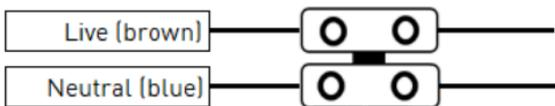

Fig. 2
- Connect the luminaire to the mains supply ensuring that correct polarity is observed: L - Live (brown), N - Neutral (blue) (see Fig. 2)